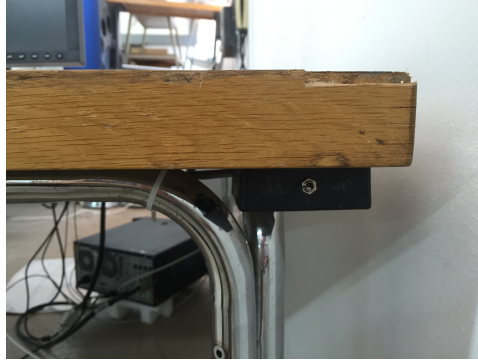

Figure 7: The main power switch.
4. **Pendulum Base** - The Pendulum Base integrates in its design a power supply with a power switch; see Figure 7. In addition